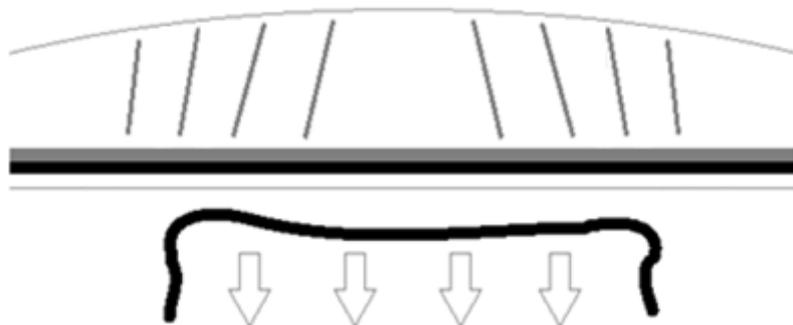

Fig107
- **STEP 1:** Cut a 19mm x 38mm batten to fit across the top of the door frame and end frame between the outer battens that form the rebate. Starting at one end of the polytunnel, trap the polythene with this batten pressed tight against the rebate batten. The polythene should be smoothed out 4 inches either side of the lintel centre and the batten nailed in place along this 8 inch length only (**Fig107**).